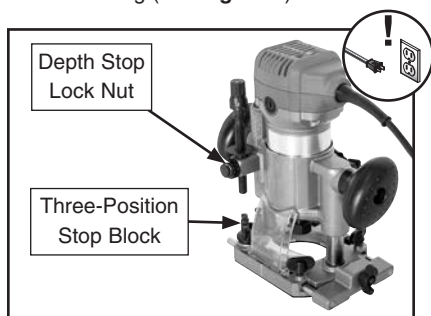

Figure 9. Depth-stop locking nut.
3. Turn three-position stop block to lowest setting (see **Figure 9**).